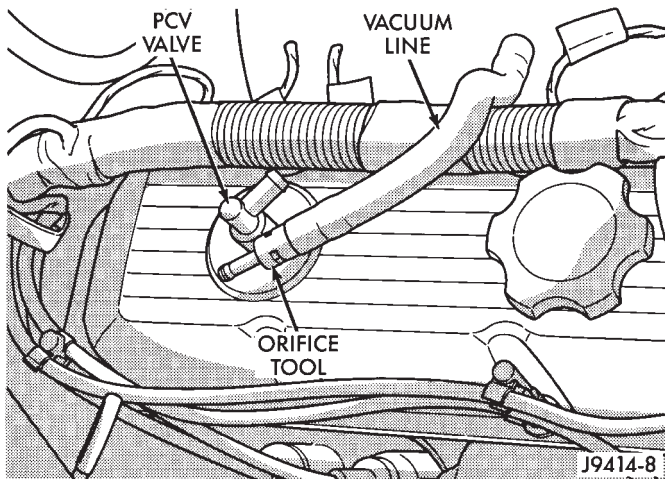

Fig. 61 Install Orifice Tool
(2) Shut off the engine and remove the air duct at throttle body.
(3) Disconnect the vacuum line at the PCV valve (Fig. 61).
(4) Install the 0.185 inch orifice tool (number 6714) into the disconnected vacuum line in place of the PCV valve (Fig. 61).